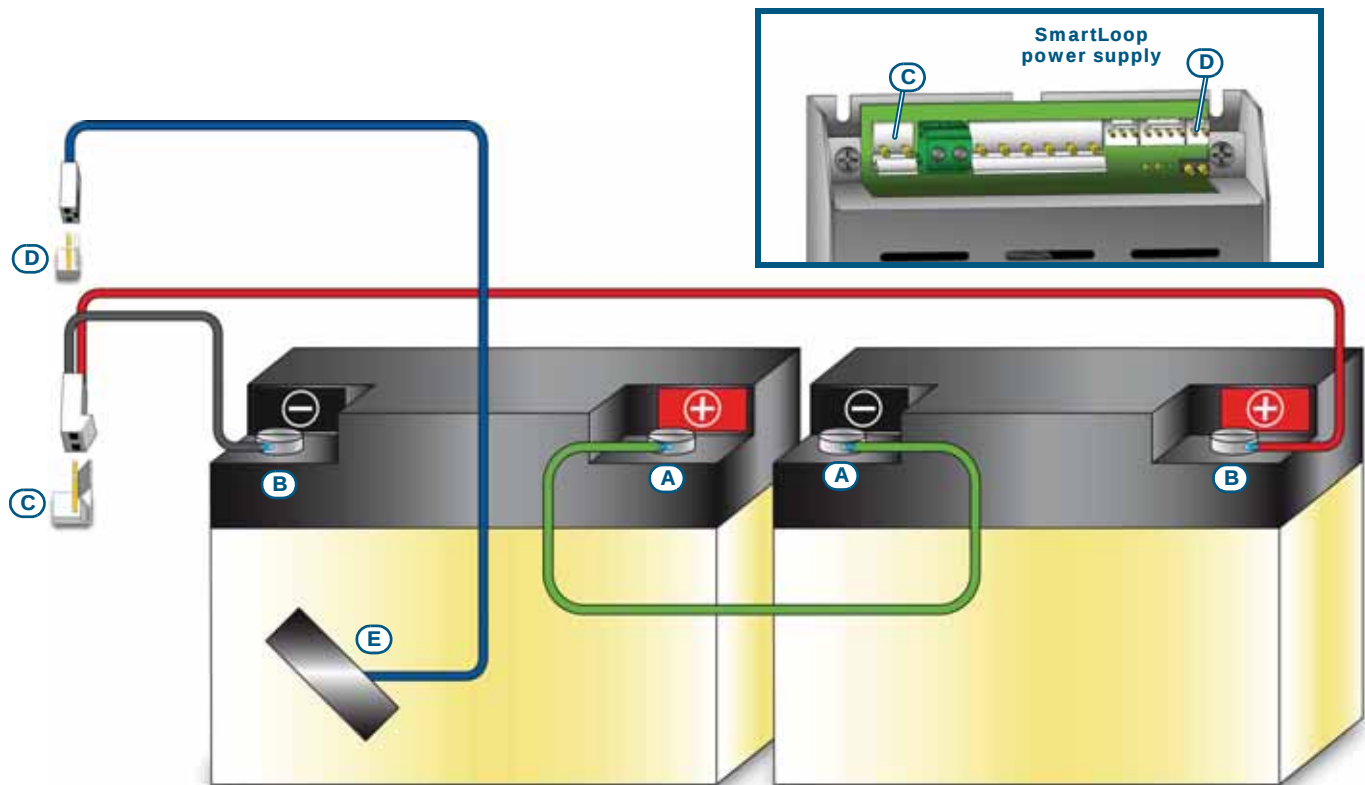

Figure 27 - Connecting the batteries
2. Using the battery wire (*Figure 27 - [A]*), connect the batteries together.
3. Connect the wire with the eyelet terminals (included) to the terminals of the batteries (*Figure 27 - [B]*).
4. Connect the battery wire connector (*Figure 27 - [C]*) to the connector of the power supply module (*paragraph 4.4 - [C]*).
Using a strip of strongly-adhesive insulating tape (Figure 27 - [E]), attach the Thermal probe to one of the batteries, in such a way as to provide optimized heat-transfer measurements.